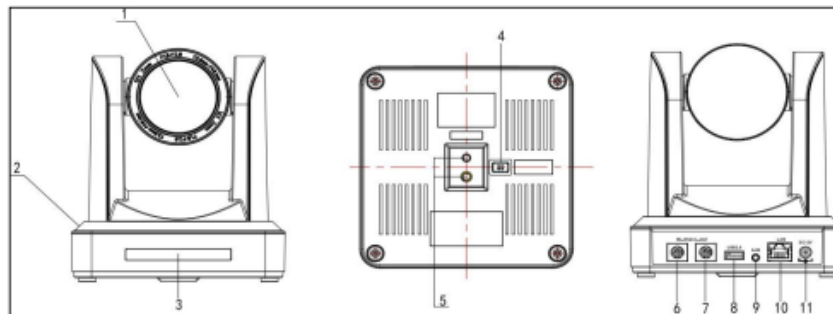

Figure 1.3 Interface of U2 (USB2.0) Series
- a. USB3.0 video cable connection: U3 models refer to No.8 in Figure 1.3. U2U3 models refer to No.8 in Figure 1.6.
- a. USB2.0 video cable connection: U2 models refer to No.8 in Figure 1.3. U2U3 models refer to No. 7 in Figure 1.6.